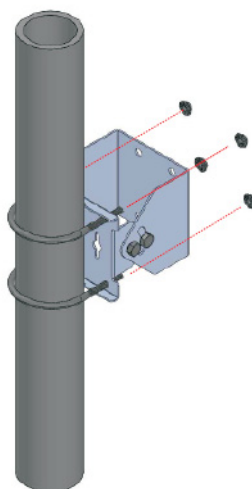

Figure 17. Attaching the Pole-Mount Brackets to the Pole
2. Attach the pole mount brackets to the pole with two U-bolts. See Figure 17.